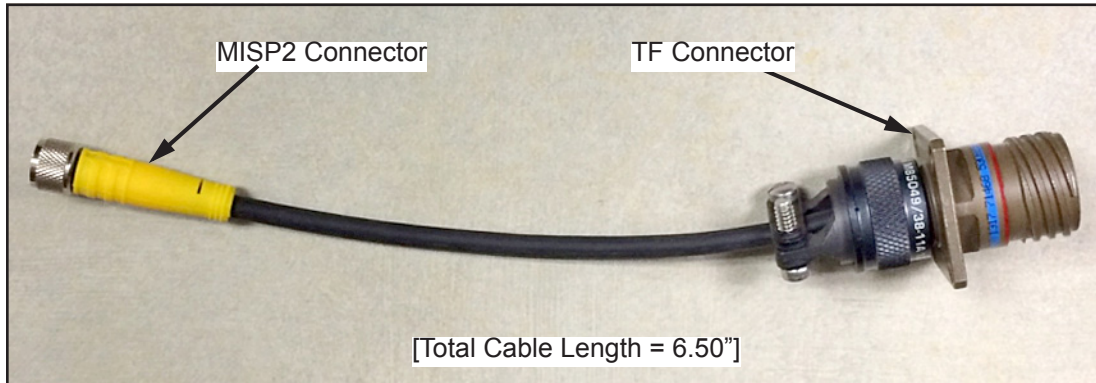

Figure 5: TF-MISP2 Converter Cable
If an existing moisture measurement system uses a **TF-Series** moisture probe, the cable for that probe may be adapted for use with an **MISP2** probe. To retrofit the existing system, refer to *Figure 5* below and complete the following steps:
3. Using BHGE *adapter cable 704-1362-00*, shown in *Figure 5* above, connect one end of the cable to the **MISP2** probe and connect the other end to the existing **TF-Series** cable connector.